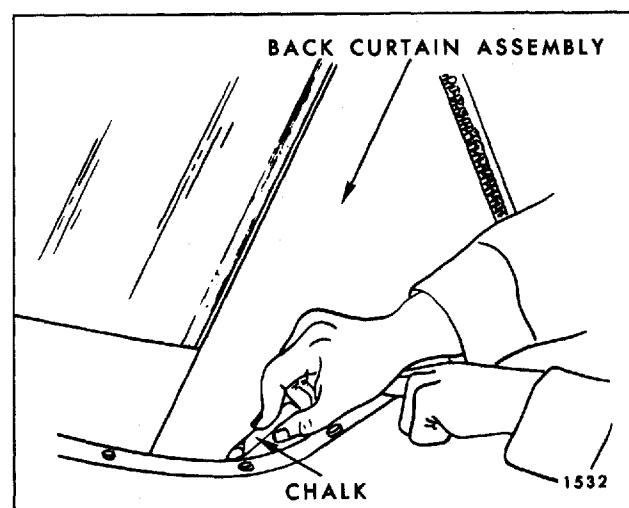

Fig. 6-21—Marking Back Curtain
17. Where required, place reference chalk mark on outer surface of back curtain along pinchweld finishing molding. Re-adjust back curtain assembly as required (Fig. 6-21).